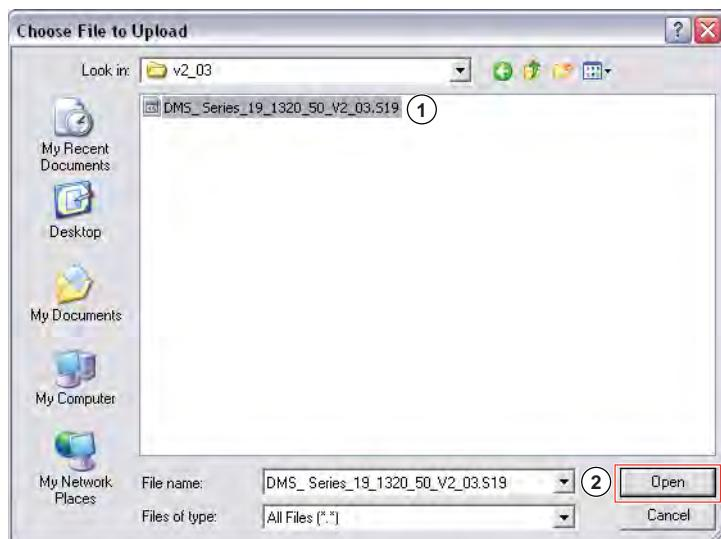

Figure 43. Choose File to Upload Dialog Box
If you are connected via the LAN port, the Choose File to Upload dialog box opens (see figure 43) (see “Ethernet-connected firmware upload,” below).
11. Navigate to the folder where you saved the firmware upgrade file. Select the file (see figure 43 (1)).